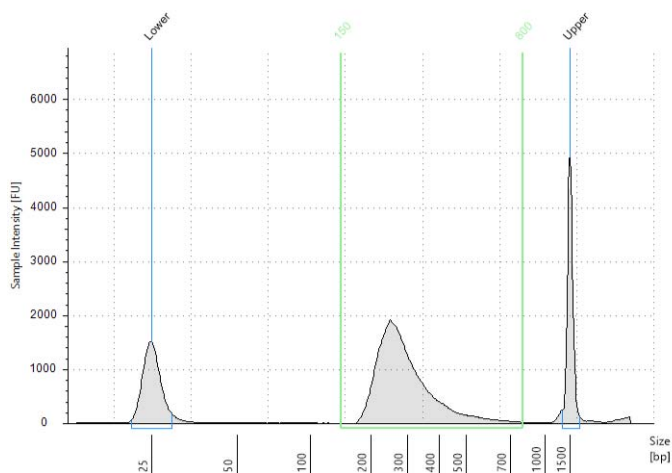
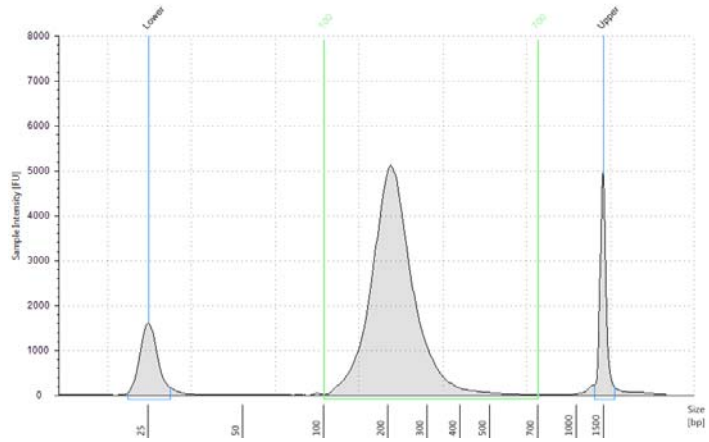

Figure 4 Amplified library DNA prepared from a high-quality RNA sample analyzed using a D1000 ScreenTape.
Figure 5 Amplified library DNA prepared from an FFPE RNA sample analyzed using a D1000 ScreenTape.
- 3 Verify that the electropherogram shows the peak of DNA fragment size positioned between 150 to 300 bp. Determine the concentration of the library DNA by integrating under the entire peak. Sample electropherograms are shown in Figure 4 (library prepared from high-quality RNA) and Figure 5 (library prepared from FFPE RNA).